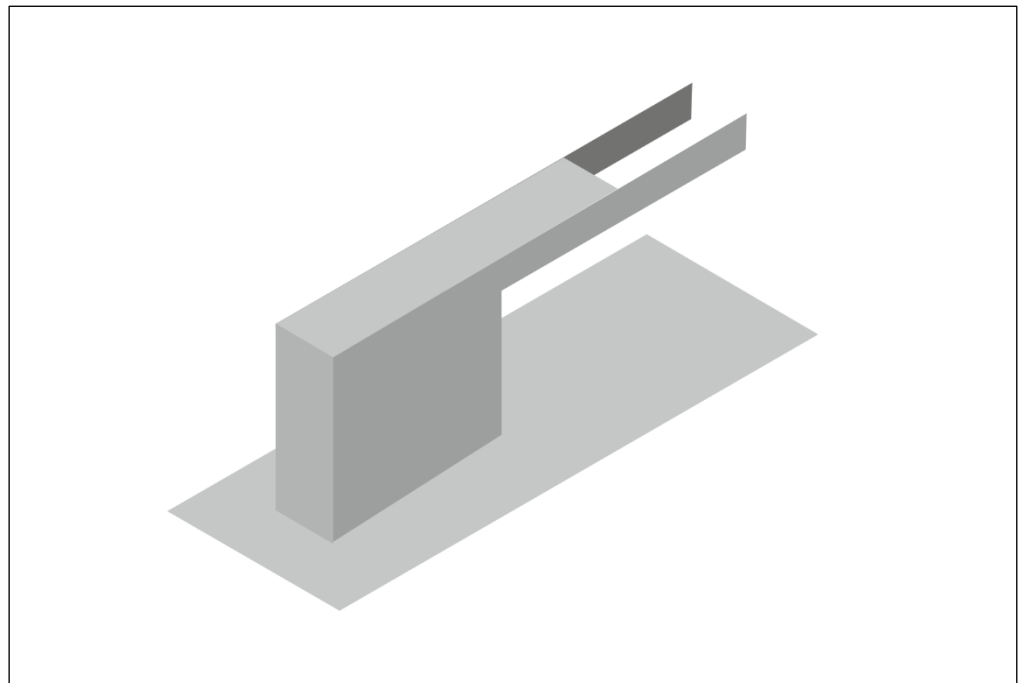

Figure 1 *Balancing Support Mandrel*
- ▶ Use balancing support mandrels as shown in the following Figure 1: